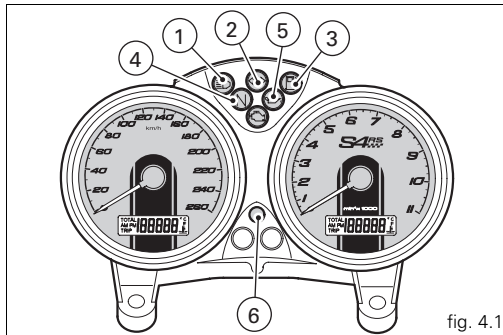
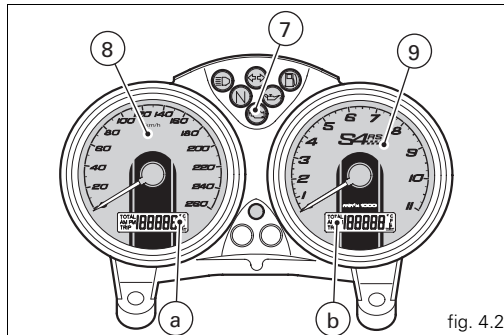

fig. 4.1
fig. 4.2
Instrument panel (fig. 4.1 and fig. 4.2)
In case of faulty immobilizer system, the following procedure gives the chance to disable "engine lock" function - signalled by illumination of the yellow amber **EOBD** warning light (7, fig. 4.1).
1) Turn the key to ON, fully open the throttle and hold it open. The EOBD warning light (7, fig. 4.1) goes off after the pre-set time of 8 seconds.
1) if the code is recognised, the warning light (6, fig. 4.1) on the instrument panel will flash briefly. This means that the immobilizer system has recognised the code and disabled the engine lock. When you press the START (2, fig. 12) button, the engine will start up.
2) If either the warning light (6, fig. 4.1) or the EOBD light (7, fig. 4.1) remain lit, the code has not been recognized. In this case, it is advisable to turn the ignition key back to OFF and then to ON again. If the engine still does not start, try using another black key. If the engine still does not start, contact the DUCATI Service network.